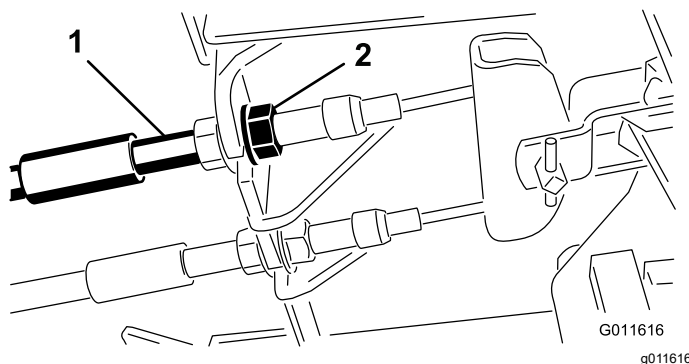

Figure 45
1. To reduce free travel of the brake pedals, tighten the brakes by loosening the front nut on the threaded end of the brake cable (Figure 45).